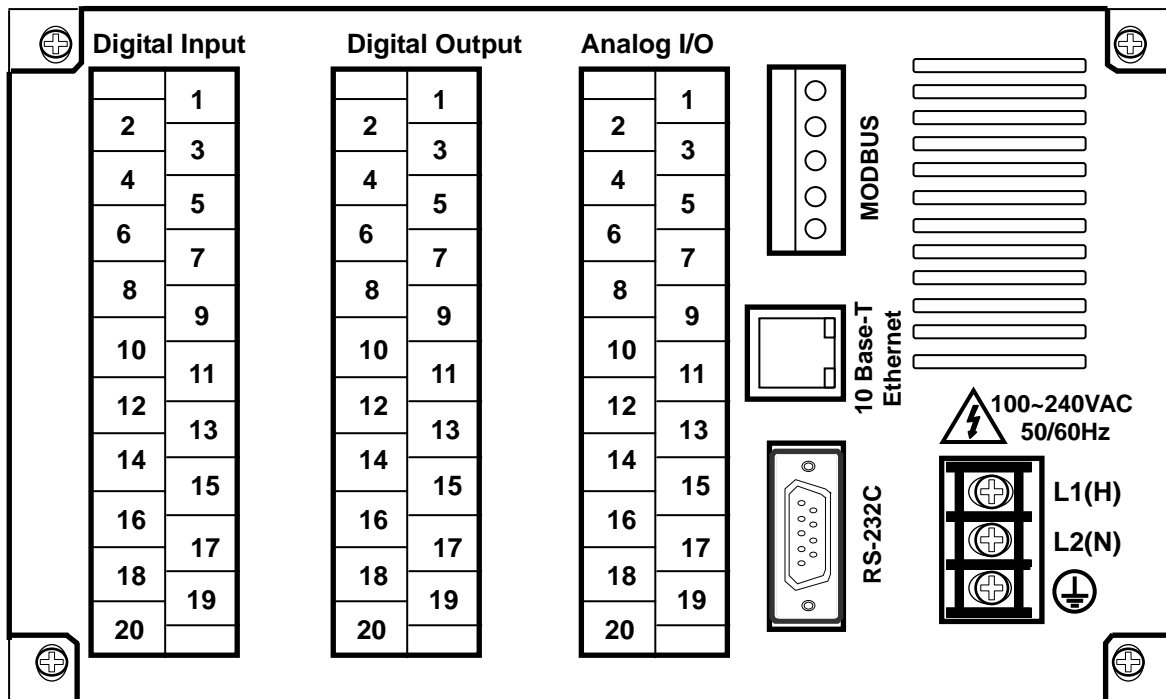

Fig. 2.9.1 Rear Terminal
1. **MODBUS** on Fig. 2.9.1 indicates the **OPTION** part. Models that do not select ModBus OPTION do not support ModBus communication.
2. **Ethernet** on Fig 2.9.1 indicates the **OPTION** part. Models that do not select Ethernet OPTION do not support Ethernet communication.